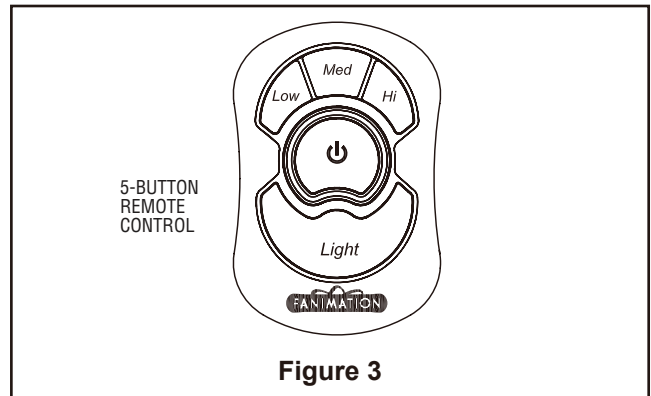

Figure 3
3. The 5-button hand-held remote transmitter includes five buttons for high, medium and low fan speeds as well as fan off and light on/off. Infinite light levels are available by holding the light on/off button (Figure 3).